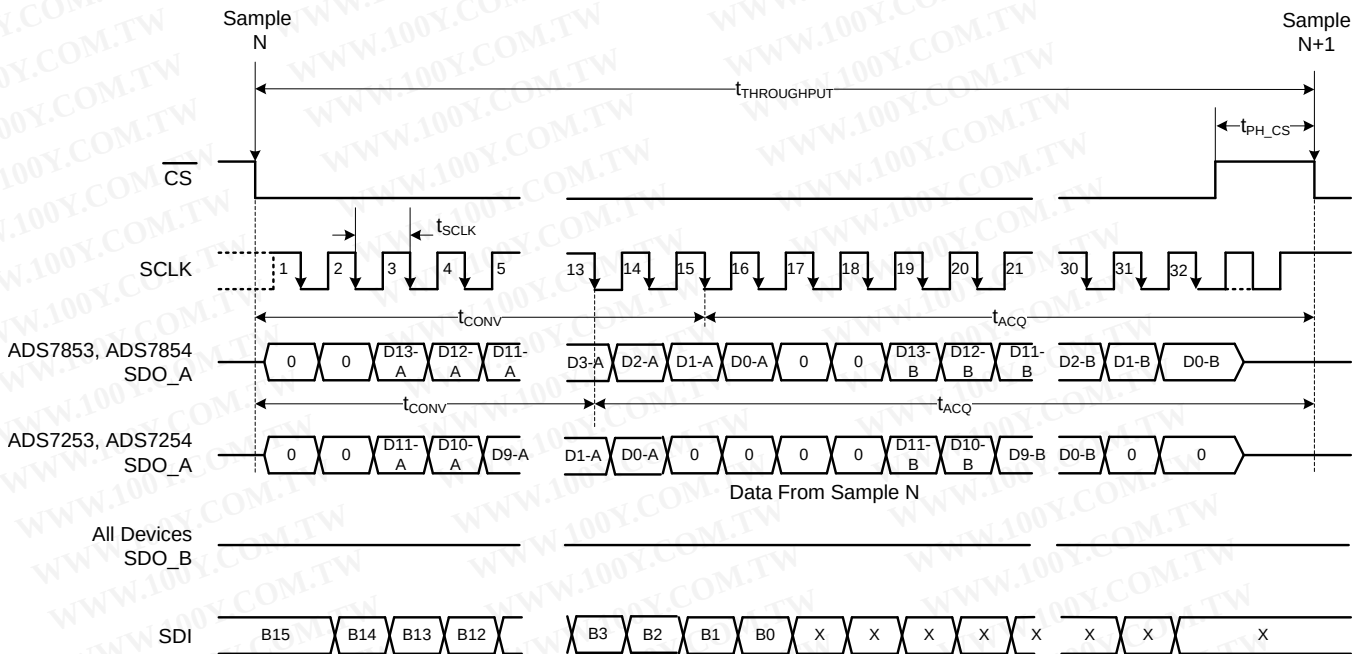

Figure 94. 16-CLK, Single-SDO Mode Timing Diagram
For the ADS7853 and ADS7253, this mode can be selected by writing CFR.B11 = 1 and CFR.B10 = 1. The SDO_A pin is used to output the conversion results of both ADCs (ADC_A and ADC_B). SDO_B remains in 3-state and can be treated as a no connect (NC) pin. Figure 94 shows a detailed timing diagram for this mode.